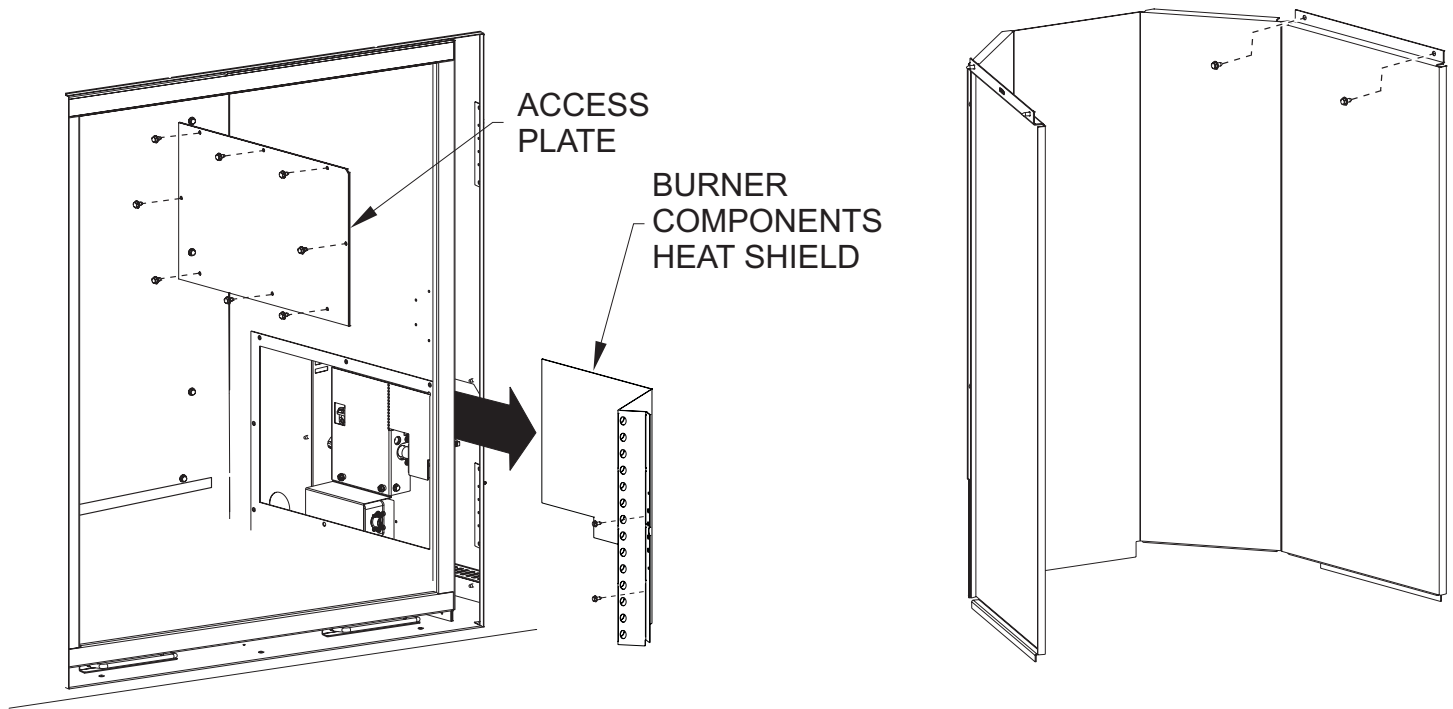

Figure 90
**NOTE:** If it is necessary to remove one of the gas valve train components, break free the plumbing fittings and remove the screw indicated in **Figure 90.**